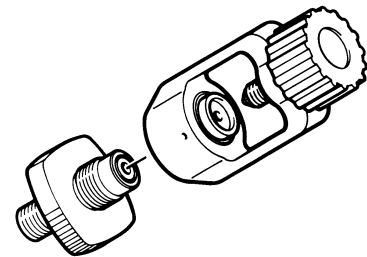

Abb. 8 International filling connector
- Air bottles with international filling connector can be connected with filling adaptor (part no. 79375) to the German filling connector (see Abb. 8).